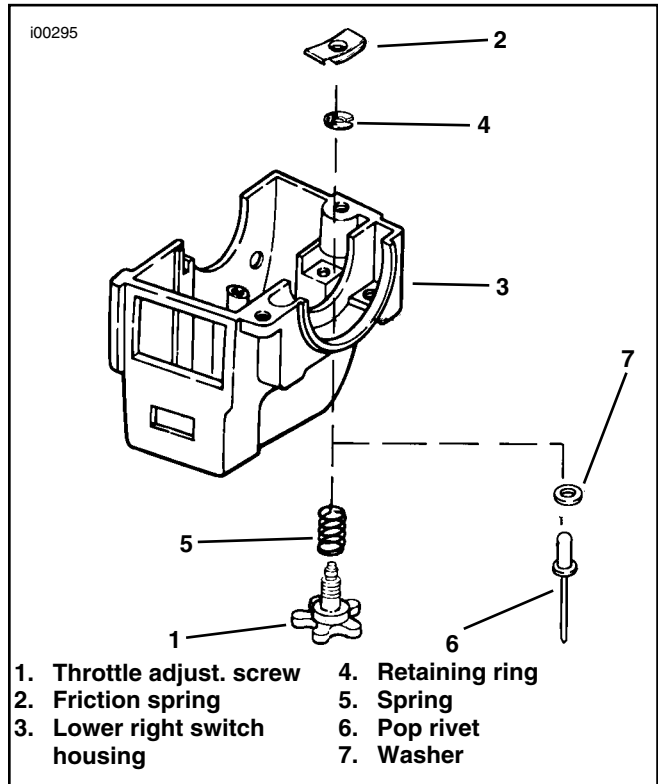

Figure 4. Throttle Adjusting Screw and Tapped Hole
4. See Figure 4. Loosen throttle adjusting screw (1), and remove friction spring (2) from groove in switch housing (3).
5. Remove retaining ring (4) from throttle adjusting screw (1) and remove spring (5) and screw (1) from lower switch housing (3).
6. Plug throttle adjusting screw tapped hole in switch housing (3) with pop rivet (6) and washer (7).